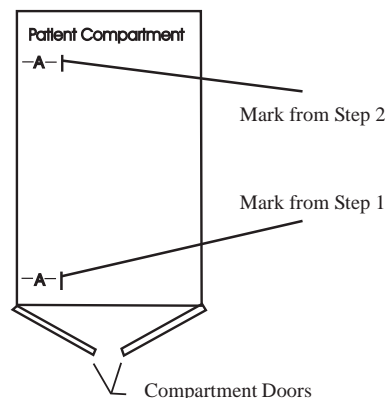

Figure 3 - Measuring from the Wall
1. Starting at the patient compartment wall near the (rear) compartment doors, measure toward the center of the patient compartment and mark a point for Measurement A (Figure 3).
2. From the same wall but near the forward end of the patient compartment, measure and mark a second point for Measurement A (Figure 3).